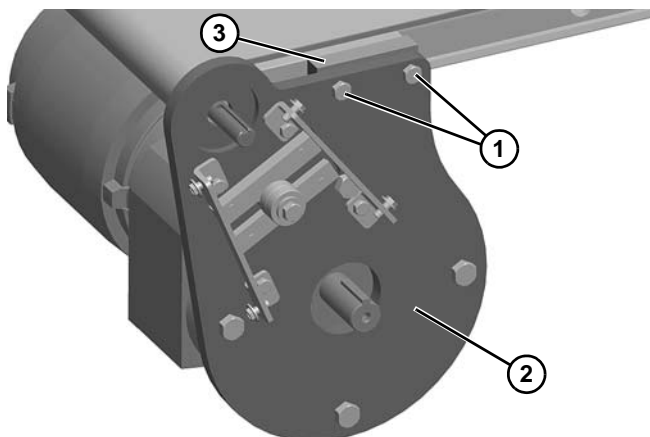

Figure 22
6. Using a wrench to hold the hex bars underneath, remove two M6 screws (**Figure 22, item 1**). Remove whole gearmotor mounting package (**Figure 22, item 2**) and spacer (**Figure 22, item 3**).